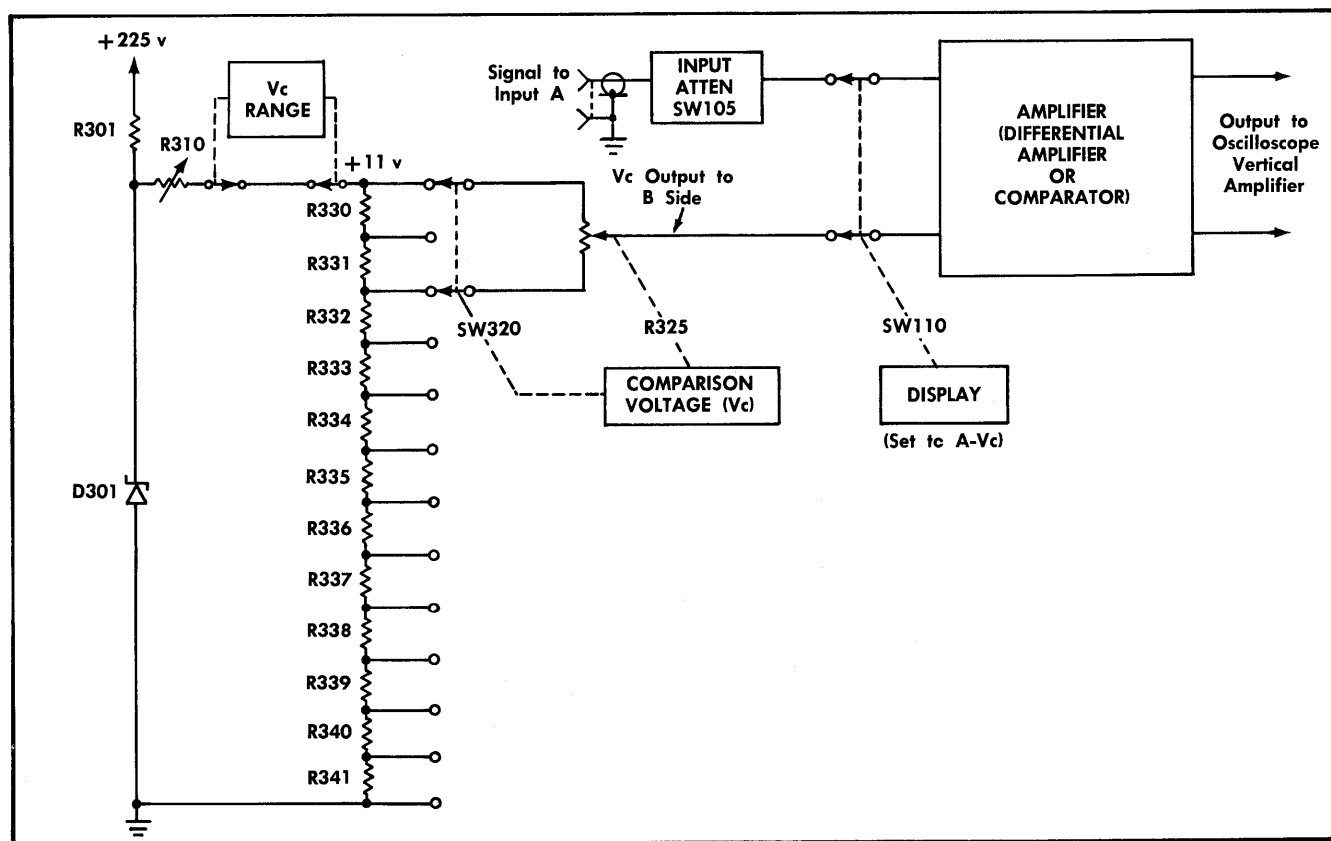

Fig. 3-1. Simplified diagram of the comparison voltage circuit and how it is connected to the amplifier for A- V_C differential-comparator mode of operation.
The comparison voltage output circuit (see Fig. 3-1 and the Switching Diagram) is composed of the COMPARISON VOLTAGE control SW230 and R325 with associated circuitry. The COMPARISON VOLTAGE control is a combination of two controls: (1) switch SW320 selects the first digit within the range set by the V_C RANGE switch, and (2) the 10-turn potentiometer R325 selects the remaining digits.